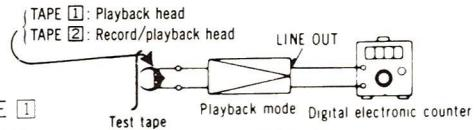

Fig. 8
1. Make connections as shown in fig. 8.